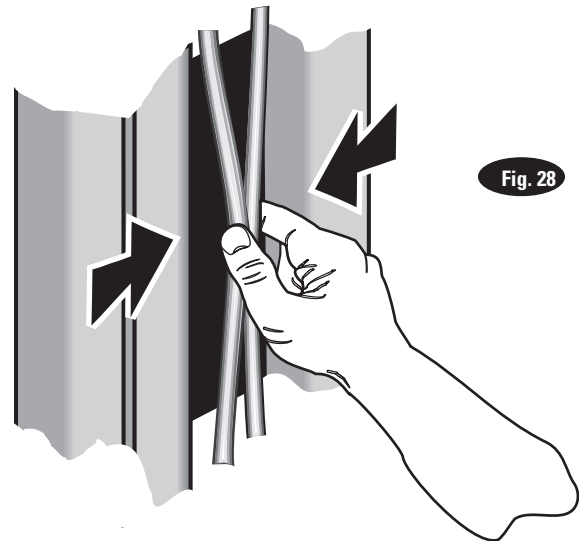

Fig. 28
**24. Equalizer Cable Adjustment:** Raise lift to check equalizer cable tension. Below carriage, grasp adjacent cables between thumb and forefinger, with about 15 lbs. effort you should just pull the cables together, Fig. 28. Adjust at upper tie-offs Fig. 17.